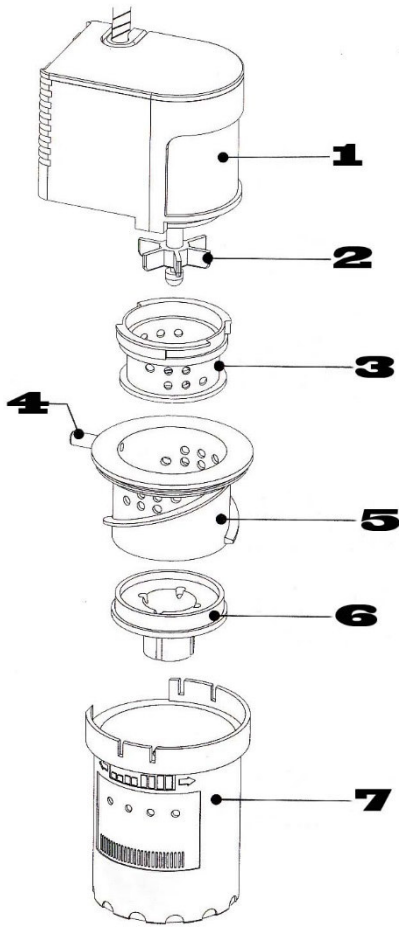

Fig. 1
3. Attach the CO₂ hose to the hose connection (Fig. 1, No. 4).